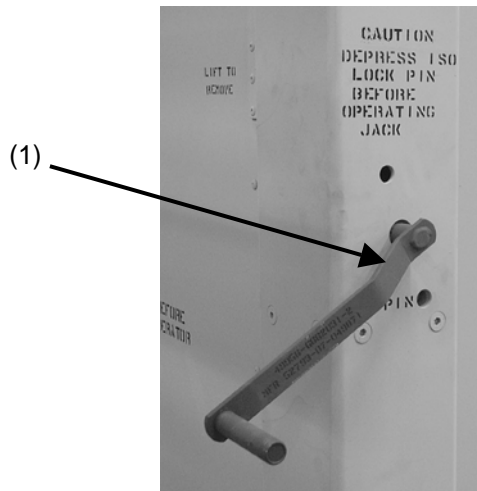

Figure 2-13. Corner post of SATS with jack handle positioned in jack
b. Go to corner of container located right of personnel door. Place jack handle (1) in jack (Fig. 2-13).
- b. Go to corner of container located left of personnel door. Place jack handle in jack (Fig. 2-13).
- b. Go to corner of container located at right side end wall. Place jack handle in jack (Fig. 2-13).